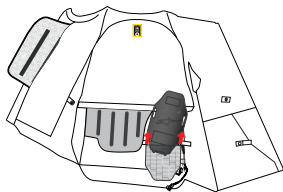

Figure 13
3. Remove the Inflater Housing (4) from its pocket by opening the two fastening hook-and-loop patches (Figure 13).
**WARNING! The removal of the Inflater Housing (4) doesn't require to be opened. Do not open the Inflater Housing (4). Only authorized Alpinestars Dealers may open the Inflater Housing (4) for servicing purposes.**